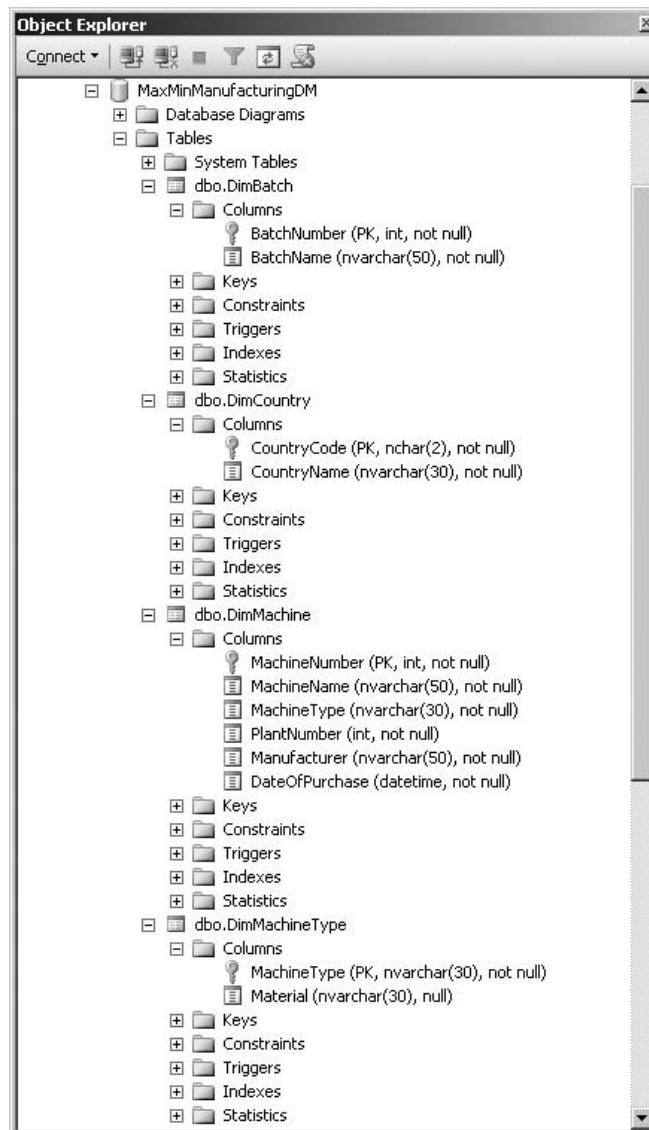
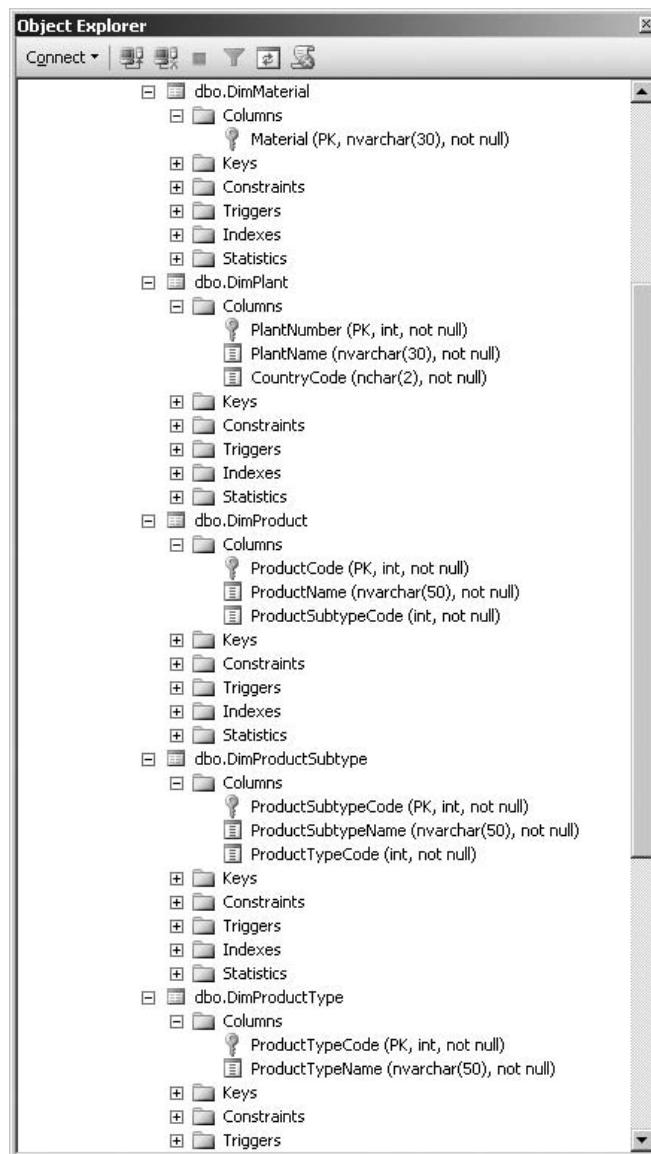

Figure 6-22 The tables in the MaxMinManufacturingDM with columns (Part 1)
Figure 6-23 The tables in the MaxMinManufacturingDM with columns (Part 2)
19. Right-click the MaxMinManufacturingDM database entry in the Object Explorer window and select Refresh from the context menu. When you expand the node for columns under each table, the entries should appear just as in Figure 6-22 and Figure 6-23.
If you notice any mistakes as you compare Figure 6-22 and Figure 6-23 with your tables, right-click the table that is in error and select Design from the context menu. Make the necessary changes to the table structure to correct the error. Be sure to click the Save toolbar button when you are done. You need to refresh the contents of the Object Explorer window after your changes before again comparing to Figure 6-22 and Figure 6-23. You may need to enable table changes in the SQL Server Management Studio. If you receive an error, select Tools | Options from the main menu. In the Options dialog box, select the Designers | Table and Database Designers page. Uncheck the Prevent saving changes that require table re-creation check box and click OK.